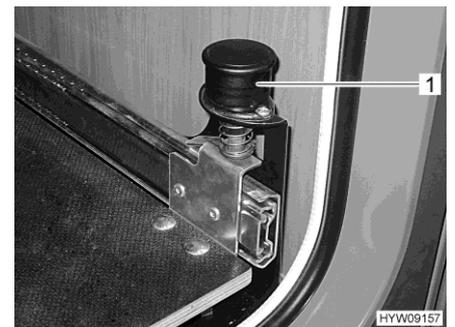

Fig. 82 Knob with locking device
- Pull the knob (Fig. 82,1) upwards. The gas bottle compartment pull-out is unlocked.